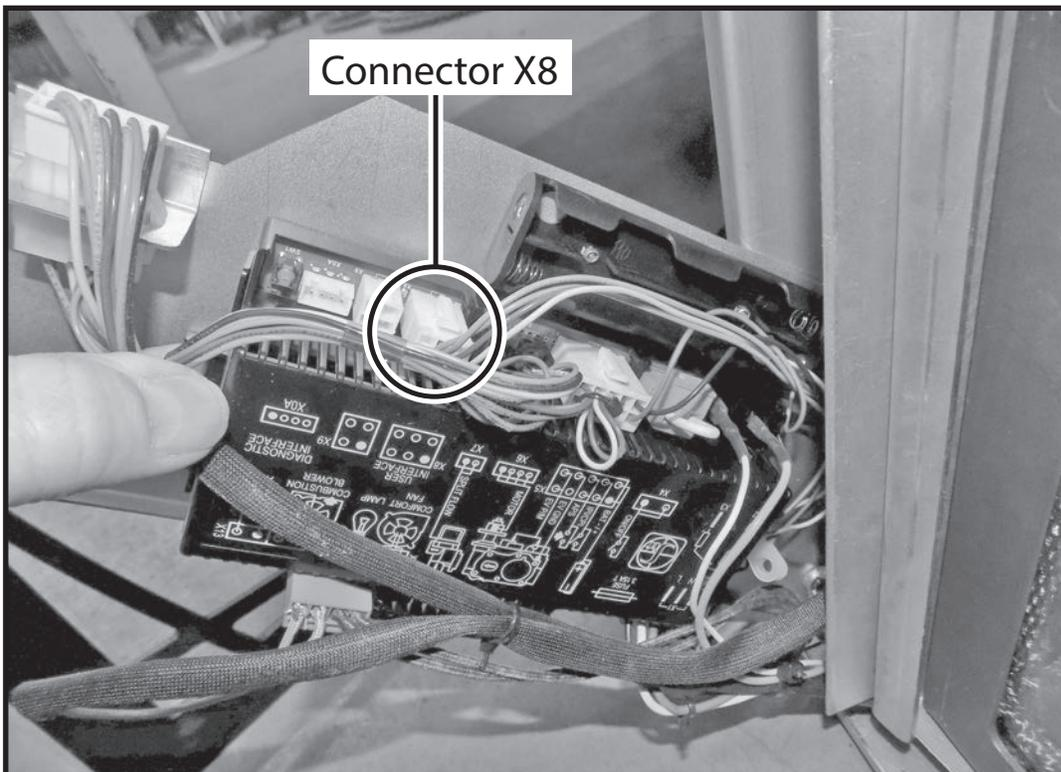

Figure 88: SIT manual switch connection at SIT module.
1. Check that the ON/OFF Switch cable is plugged into the SIT module (jack X8) as shown in Figure 88.
**Note regarding batteries for the SIT module (Figure 88):** Installation of batteries for the SIT module are not necessary if the fireplace is connected to AC power. Batteries are only used if the fireplace is not connected to AC power and as a backup against power failure.